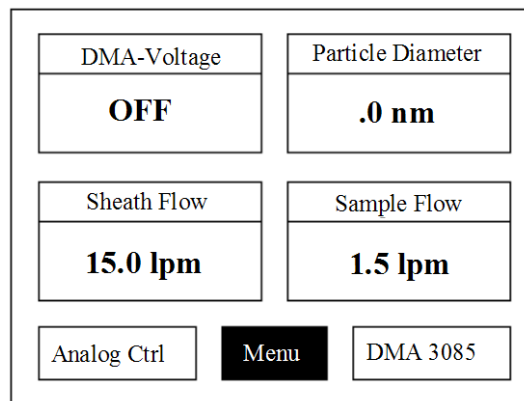

Figure 4-1
Power should be applied to the Condensation Particle Counter (CPC) and the Electrostatic Classifier. The analog output must be set to HOST in the Model 3010, 3022A, or 3025A CPC. See “Applying Power Sequence” in Chapter 3 for more information. On the Classifier, the voltage control should be set to “Analog Ctrl” (lower left pane on display—see Figure 4-1) to allow the DMA voltage to be controlled by the CPC.
1. On the Classifier, the voltage control should be set to “Panel Ctrl” (lower left pane on display—see Figure 4-1) to allow the DMA voltage to be controlled from the front panel, and the DMA Voltage control (upper left pane on display) must be set to 0 volts (off).